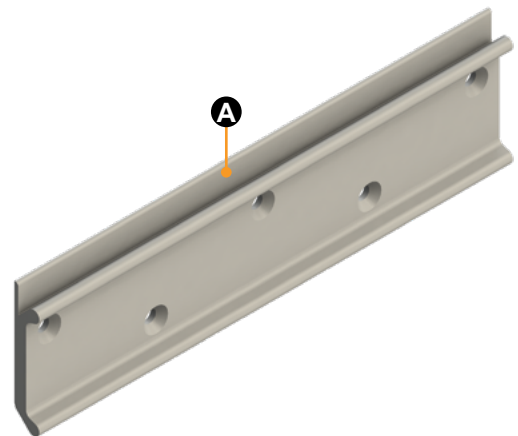

Fig.7
**NOTE:** The access plate (Fig. 7) can be mounted with the flat edge (Fig. 7A) at the top or bottom, depending on which option allows for a more square installation on the unit.